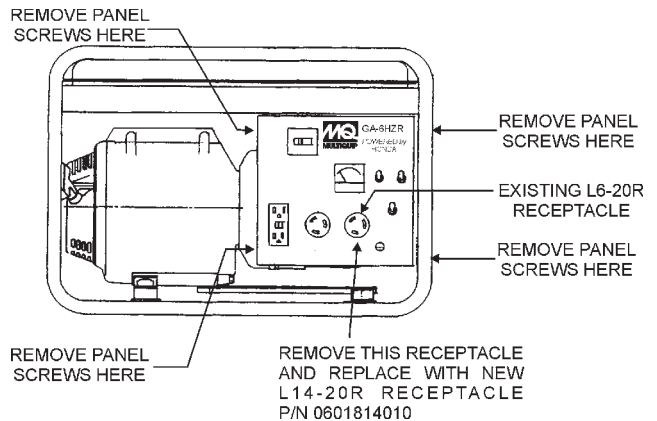

Figure 1. GA-6HZR Generator
- Remove the the four bolts (Figure 1) that secure the control box panel, then pull the control box panel downward very slowly, being careful not to disturb any electrical connections.
- Place the control box panel back onto the generator and reinstall the four bolts (Figure 1) that secure the control box panel.